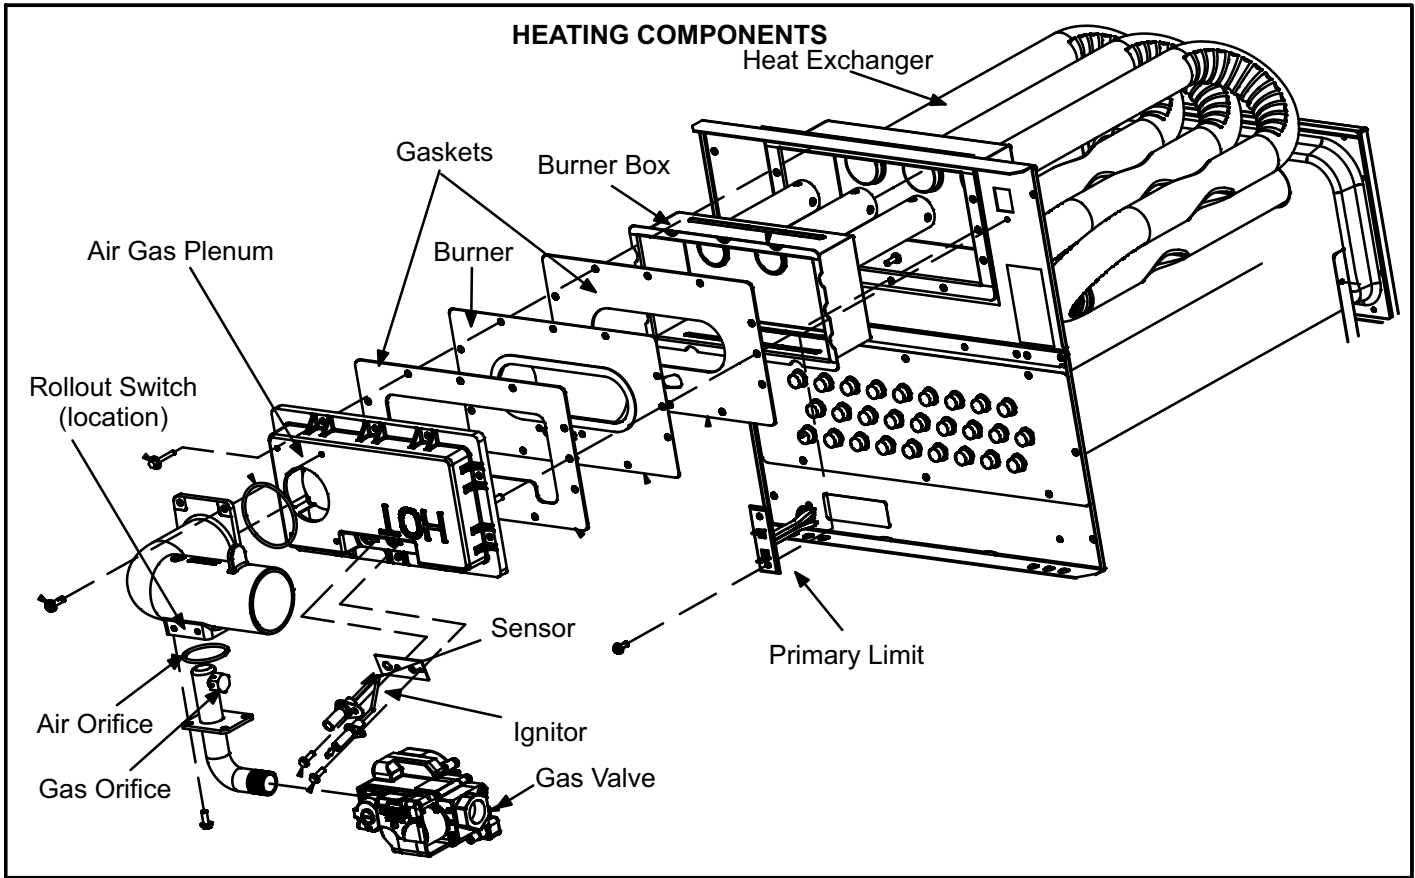

FIGURE 5
The hot surface ignition control system consisting of an integrated control (figure 3 with control terminal designations in tables 1, 2 and 3), sensor and ignitor (figure 5). The integrated control and ignitor work in combination to ensure furnace ignition and ignitor durability. The integrated control, controls all major furnace operations. The integrated control also features a RED LED for troubleshooting and two accessory terminals rated at (1) one amp. See table 4 for troubleshooting diagnostic codes. The nitride ignitor is made from a non-porous, high strength proprietary ceramic material that provides long life and trouble free maintenance.
1. Thermal Switch (Figure 5)
Burners are factory set and require no adjustment. Always operate the unit with air gas plenum in place. The burner has one orifice located between the gas valve and the air intake assembly (Figure 5). To check or replace the orifice remove the black iron inlet pipe from the gas valve then remove the four screws securing the gas valve to the intake air pipe. The orifice is located in the orifice housing. The burner uses an orifice (see Table 16) that is precisely matched to the burner input. The burner can be removed for service. If burner has been removed, it is critical to replace all gaskets.
5. Flame Sensor (Figure 5)
6. Ignitor (Figure 5)